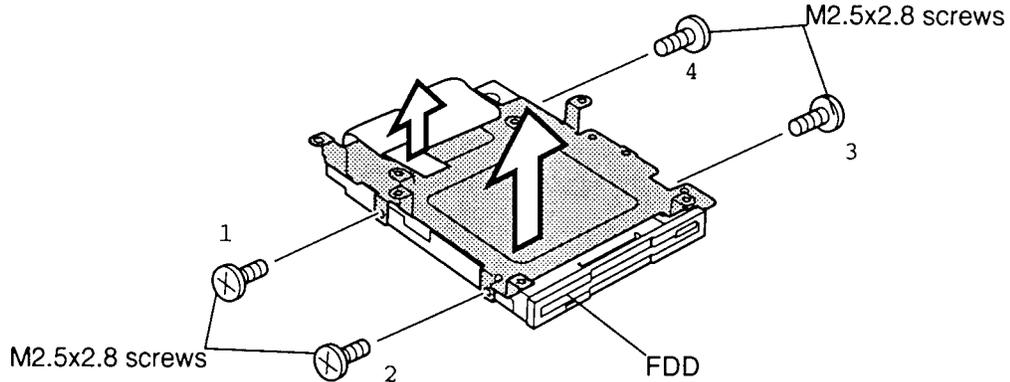

Figure 4-17 Removing the HDD
5. Remove four flat-head M2.5x2.8 screws securing the bracket to the FDD and slip off the bracket (figure 4-17).
1. Secure the bracket with four flat-head M2.5x2.8 screws in the numbered order: 1 to 4 (figure 4-17). Tighten screws 1 to 4 to a torque of less than 2.2 kgfcm.